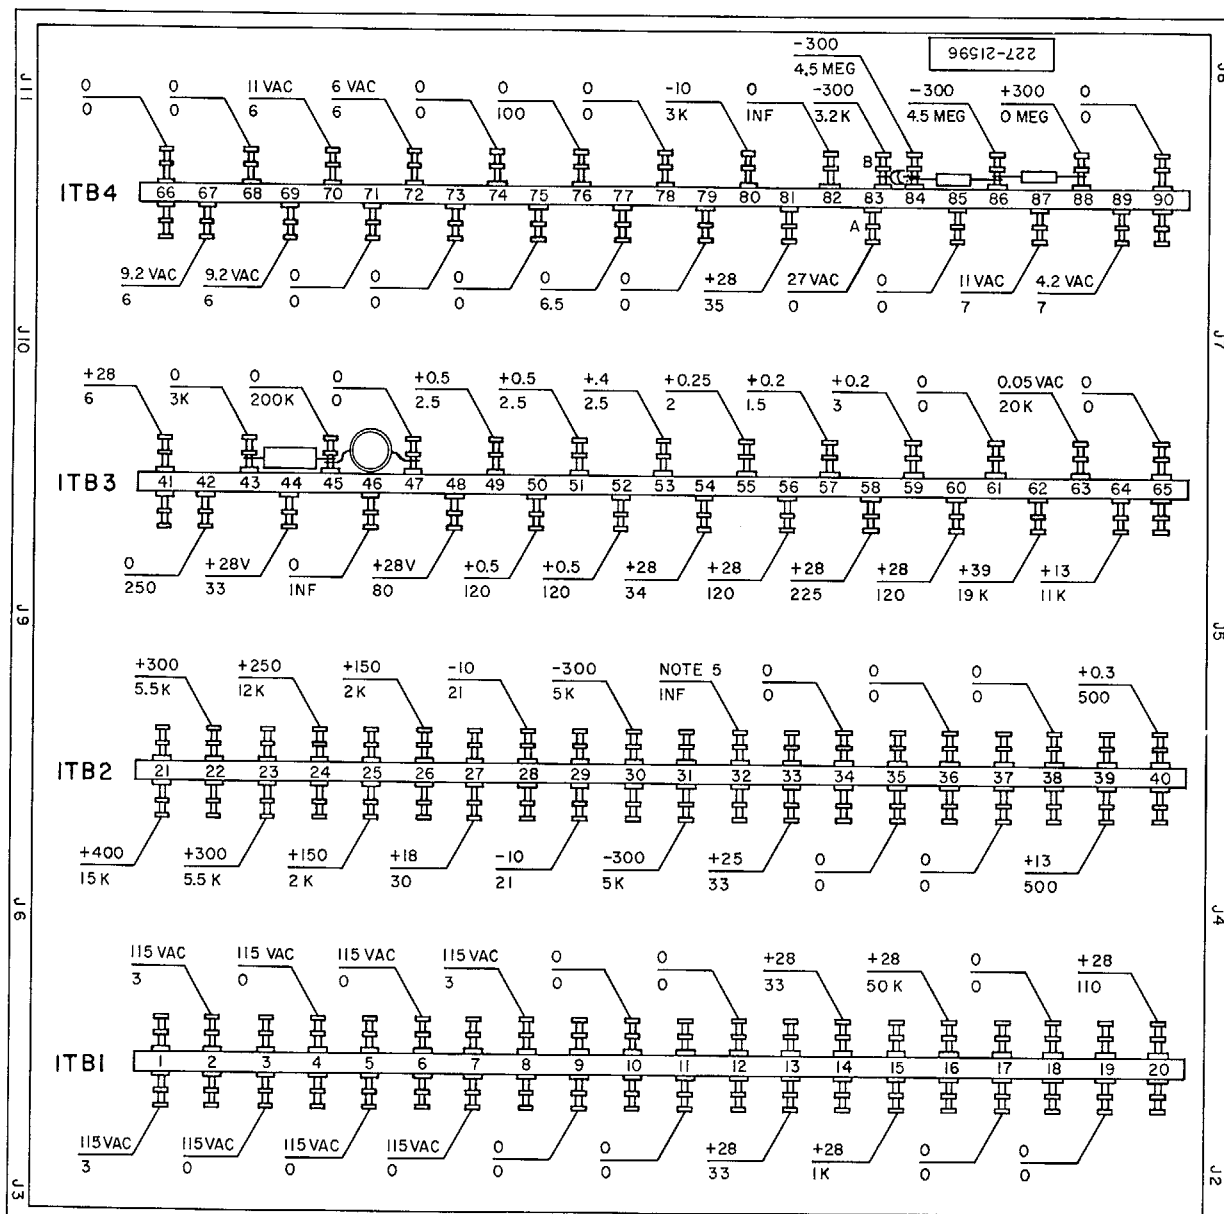

Figure 3-2. Interconnection box, voltage and resistance chart.
(4) Measure the voltage between terminal 42 (1TB3) and ground in the interconnection box (fig. 3-2). A reading of +28 volts dc indicates that one of the power supply circuits is overloaded.
(5) Turn off all power to the radar set; use the stopping procedure outlined in paragraph 2-17.
(6) Refer to the interconnection box voltage and resistance diagram (fig. 3-2) and make resistance measurements from ground to terminals 21, 22, 24, 25, 27, 28, and 30. A low resistance measurement at any of these terminals indicates that the circuit containing the fault is supplied with power through that terminal.
(7) Leave the multimeter leads connected to ground and to the terminal which indicates low resistance,
by measuring resistances at other interconnection box terminals and employing the procedure given in a(7) above. Carefully read the notes on the interconnection box voltage and resistance chart (fig. 3-2) and exactly duplicate the conditions under which the normal readings were obtained.
c. *Interlock Circuit Checklist.* The radar set interlock circuit can be checked at the terminals of the interconnection box by following the steps of the interlock circuit checklist below. Interlock circuit trouble is sectionalized to the components given in the *Component* column when the continuity measurement between the terminals listed in the *Terminals* column indicates an open circuit. Follow the steps of the interlock circuit checklist in the numerical order shown in the *Items* column, With all power in the radar set turned off (para 2-17), set Multimeter TS-297/U to the Rxl range and check the continuity between the pairs of terminals listed in the *Terminals* column. If the continuity check indicates an open circuit, check the cable connectors, the cables, and the chassis listed in the *Check* column for completeness or proper seating, or for damage. If the radar set is not restored to operation after the performance of these checks, or if a damaged cable or cable connector is discovered, higher category maintenance is required. Interconnection box terminals are shown in figure 3-2 and cabling information is given in figure 5-1.